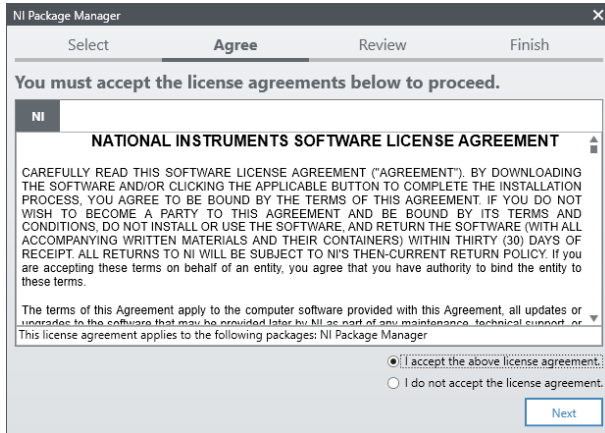
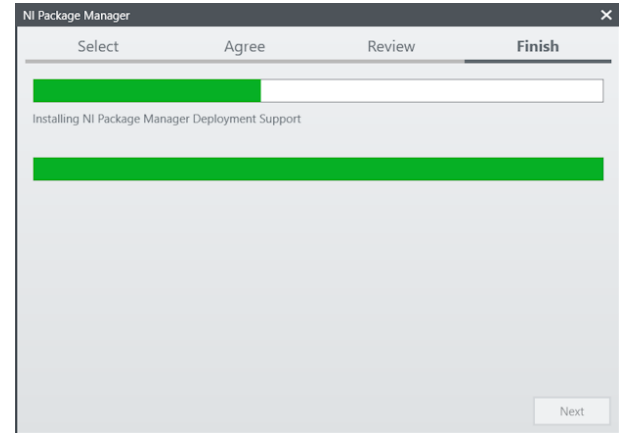

Figure 2-12 NI Package Manager License Agreement
Figure 2-13 Begin installing NI Package Manager
7. When “Install.exe” is run, “NI Package Manager,” the software necessary to manage the National Instruments software, will be installed. Read the license agreement and if you agree, select “I accept the above license agreement” and click Next (Figure 2-12). Click Next a few times to begin the installation (Figure 2-13).